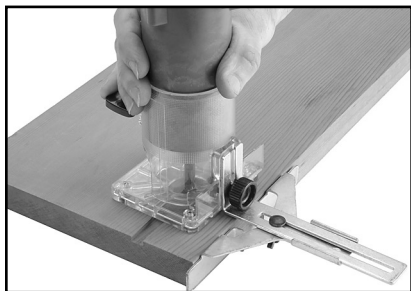

Figure 8. Routing a slot.
3. Follow the instructions in **Routing Operations** on **Page 11** to make the desired cut as shown in **Figure 8**.